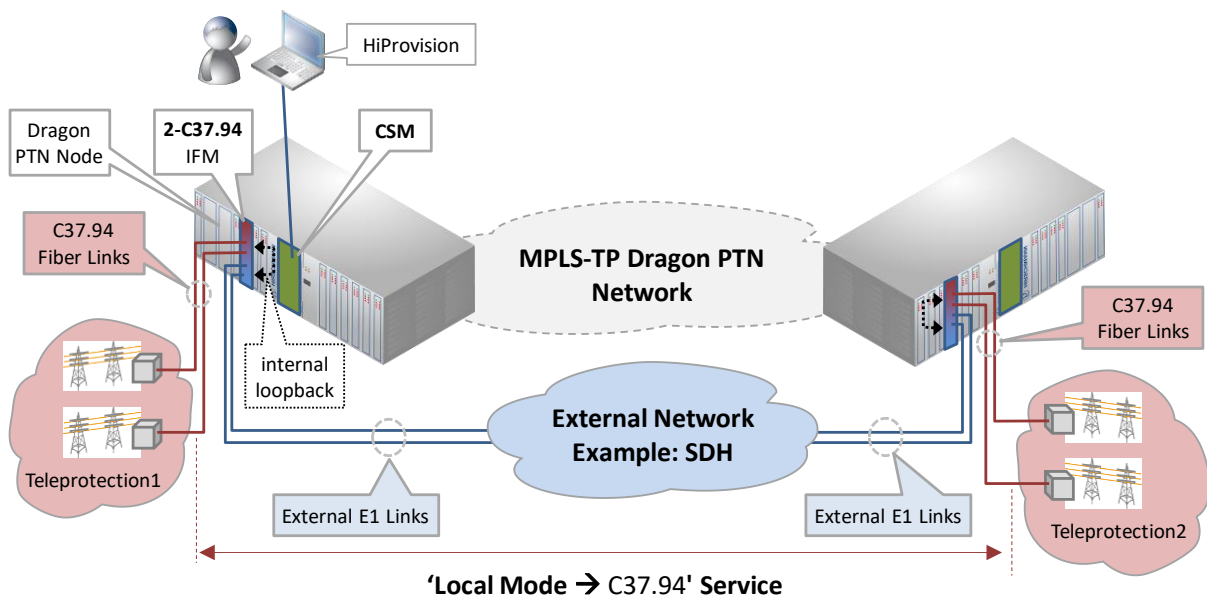

Figure 1 Local Mode: C37.94 – SDH Example
- ▶ Local Mode (see Figure 1): The IFM just converts C37.94 data into E1/T1 and vice versa. This mode does not use any backplane access (or Dragon PTN network) in a point-to-point connection. It converts the incoming C37.94 signal on port1 into E1 on port3 and vice versa. The same counts for port2 and port4. The E1/T1 links provide synchronous TDM links between two end points that can be used to transport over an external network e.g. SDH. The C37.94 ports are the access ports whereas the E1/T1 ports are the SDH interconnection ports. At the destination side, the 2-C37.94 IFM receives the E1/T1 traffic and converts it back to a C37.94 signal towards the end application. Service in HiProvision = 'Local Mode - C37.94';